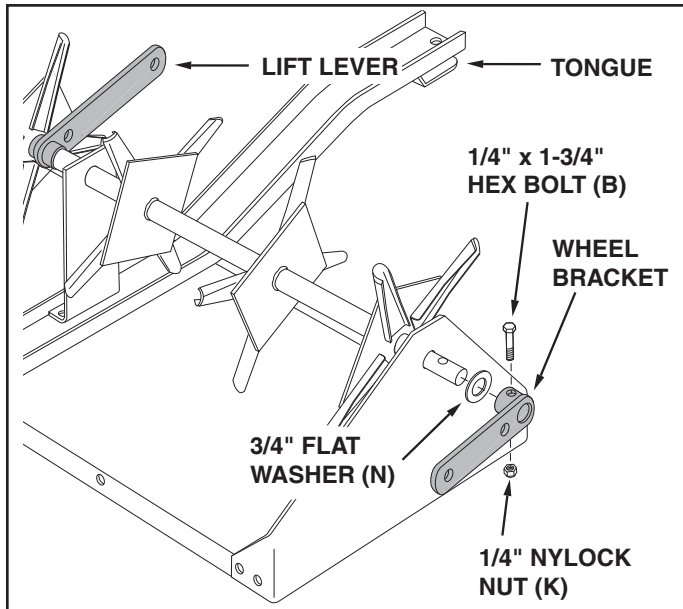

FIGURE 8
11. Standing behind the tray, place the **long end** of the shaft through the end plate on your right as shown in figure 8. Place the other end of the shaft through the end plate on your left. Make sure the bent end of the middle brace rests flat inside the tongue.
12. Assemble a 3/4" flat washer (N) and a wheel bracket onto each end of the shaft. Turn each wheel bracket to point in the opposite direction from the lift lever. Secure each wheel bracket with a 1/4" x 1-3/4" hex bolt (B) and 1/4" nylock nut (K). **Tighten.** See figure 8.